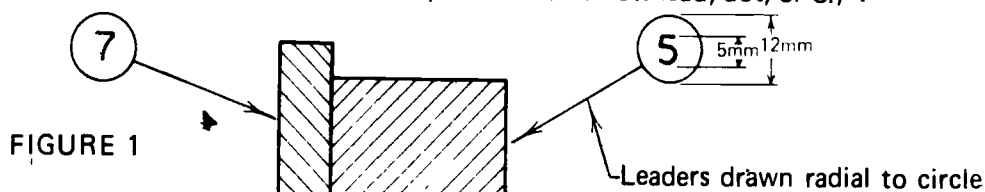

FIGURE 1
- E. Parts identification numbers--Allow for quick identification of physical shape and guide reader to the parts list (Figure 1)